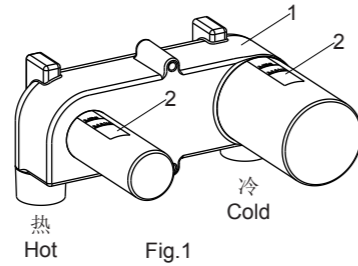
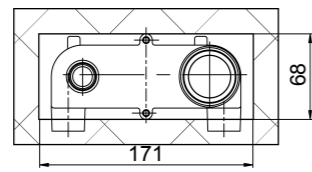

Fig.1
Fig.2
如Fig.1所示, 装修好的外墙面应处于保护套(2)上的MAX与MIN标记之间。装修好的墙面孔如Fig.2所示。
将Rc1/2"冷热供水管按Fig.1接到阀体上。热水管接左侧(带有红色标记)。
The out surface of the finished wall should be between the MAX and MIN marks on the protectors(2) as Fig.1 shown. The size of opening in finished wall is as Fig.2 shown.
Connect Rc1/2" hot and cold supplies to the body as Fig.1 shown. Connect hot supply to the left with red mark.